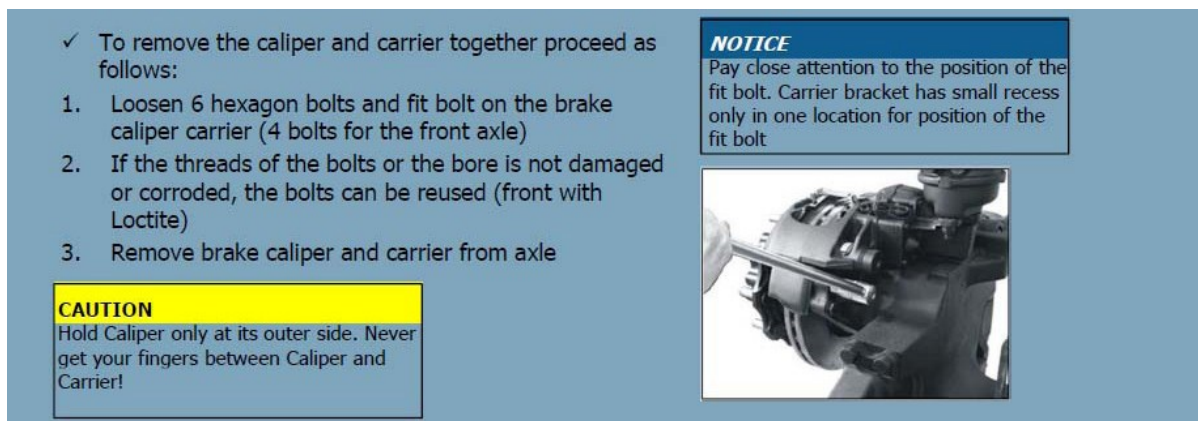

Figure 11 - Remove the 6 Carrier Bolts
1.12. Remove the 6 carrier bolts at the center drive axle (see Figure 11).